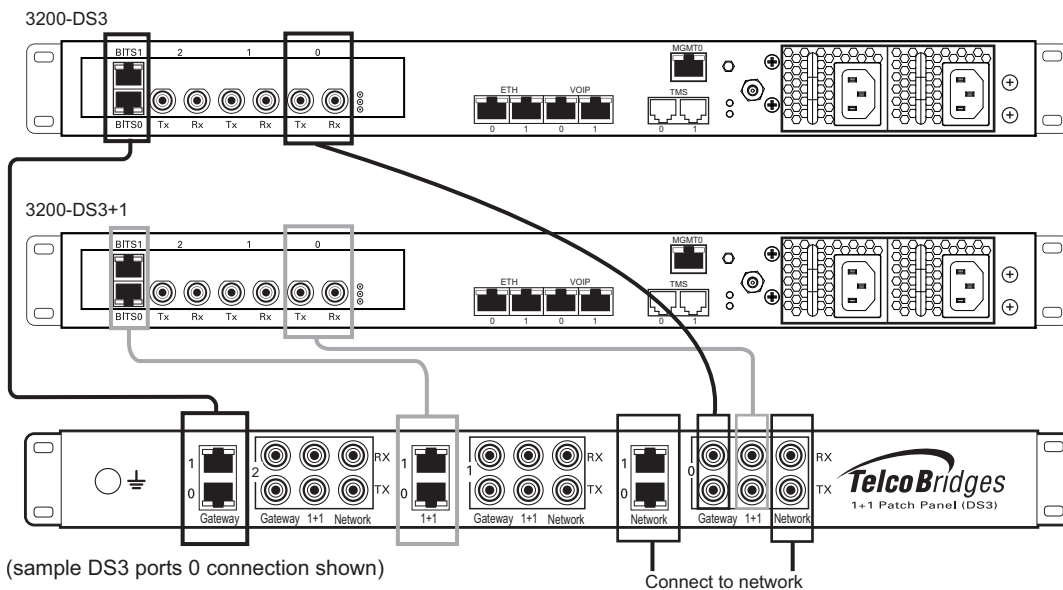

Figure 2.14 3200-DS3 and 3200-DS3+1 connecting to the TDM 1+1 DS3 1+1 patch panel
A 3200-DS3 and 3200-DS3+1, each with 3 sets of BNC connectors, enables the connection to DS3 lines. See figure 2.14 on page 33.
1. Connect each DS3 line from the network section of the 1+1 patch panel to the remote equipment. See figure 2.14 on page 33.